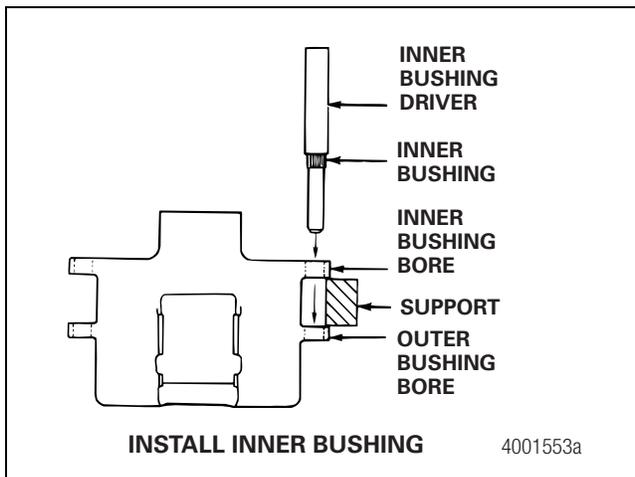

Figure 4.10
2. Use the inner bushing driver and a mallet or press to install the inner bushings. Figure 4.10.
3. Align the small diameter end of the inner bushing driver through the inner bushing, inner bushing bore and installed outer bushing. Figure 4.10.